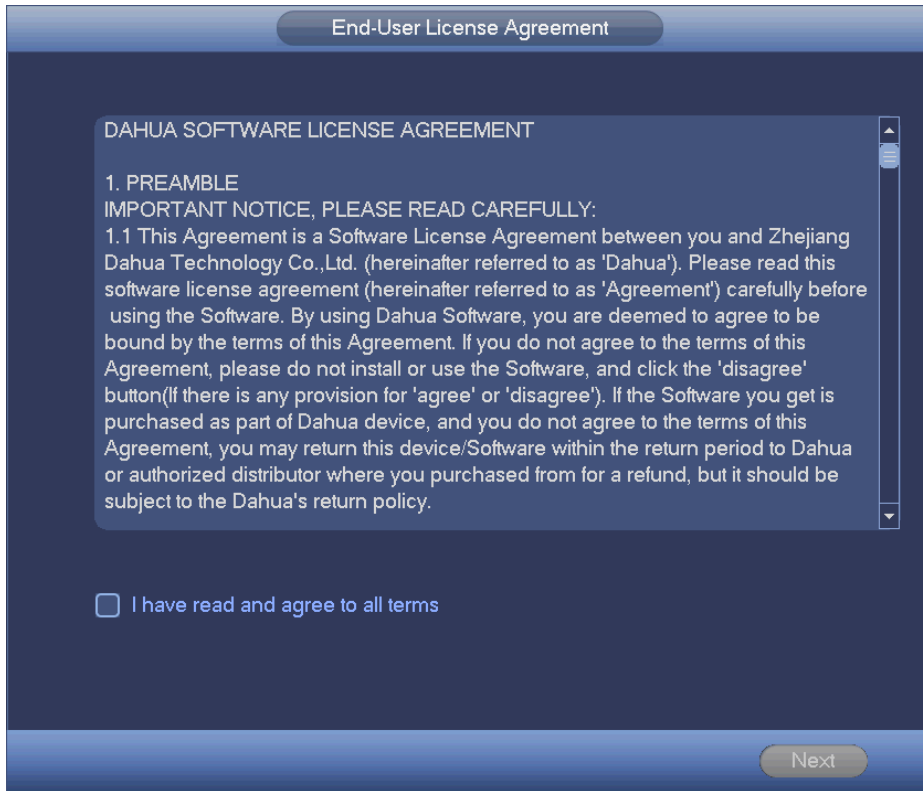
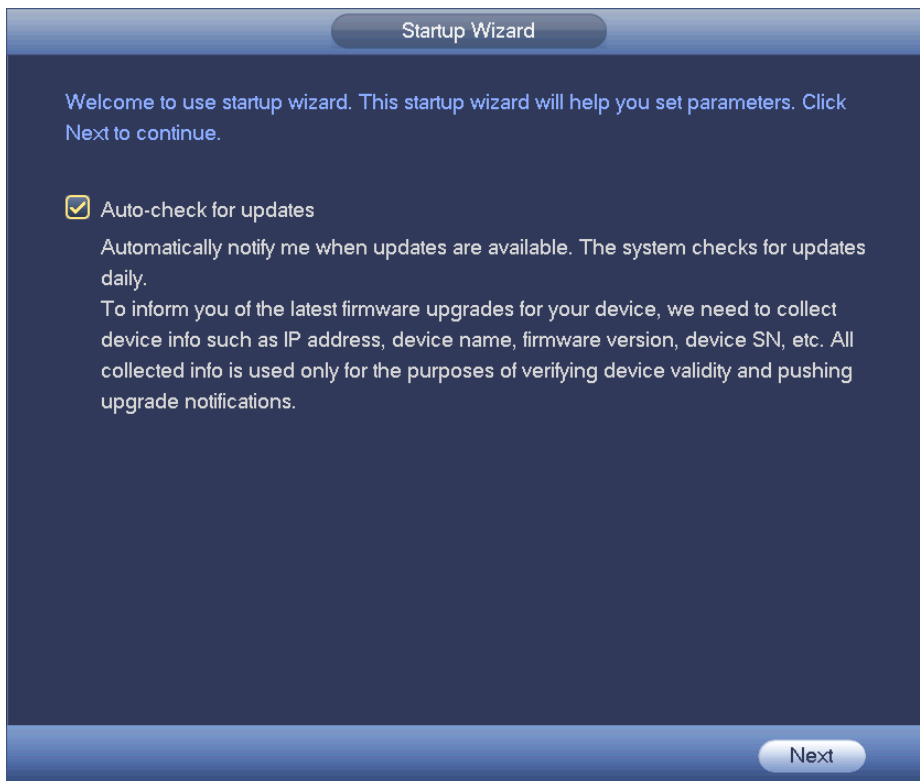

Figure 4-13
Figure 4-14
- Startup wizard: After initialize the device, system goes to the End-User License Agreement (EULA) interface. See Figure 4-13. Check the box to agree the EULA. Click Next button to enter startup wizard if it is your first time to login. See Figure 4-14.